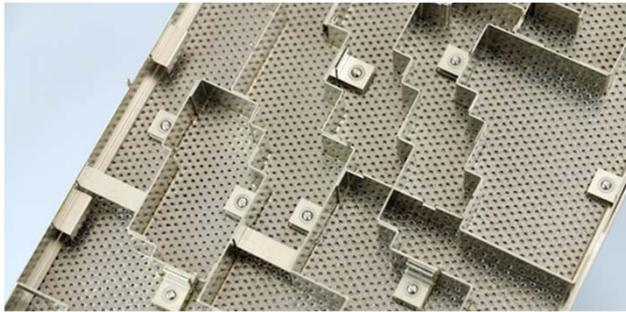

Fig. 4. Hybrid shield with cover, PCB side.
- ▶ As seen in Fig. 4. Hybrid shield frames are manufactured using the same thin gage materials common to board level shields and have a removable cover.